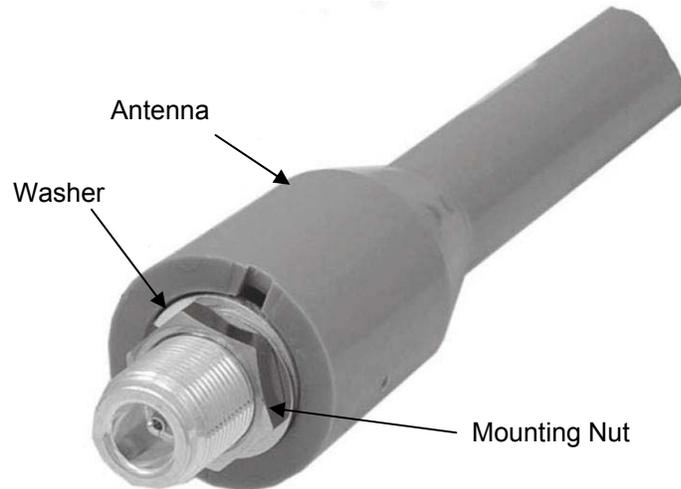

Figure 11: COM antenna base.
- 2 Remove the mounting nut and washer from the base of the antenna. See Figure 11 on page 4.